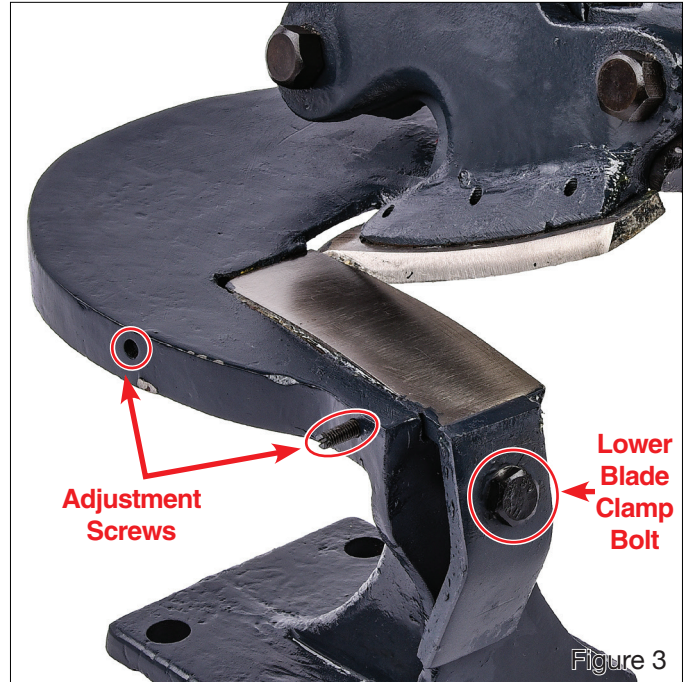

Figure 3
- To adjust the gap, loosen the lower blade clamp bolt at the front of the shear. (Figure 3)
- Using the supplied screwdriver turn the (2) two set screws to increase or decrease the blade gap